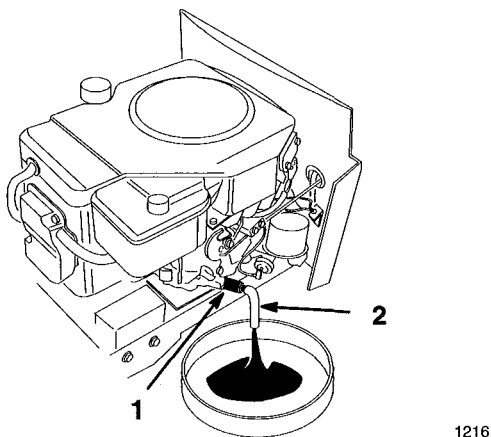

Figure 18
5. Place a pan below the oil drain. Open the drain by turning counterclockwise, 1/8 turn and pull out. (Fig. 18).